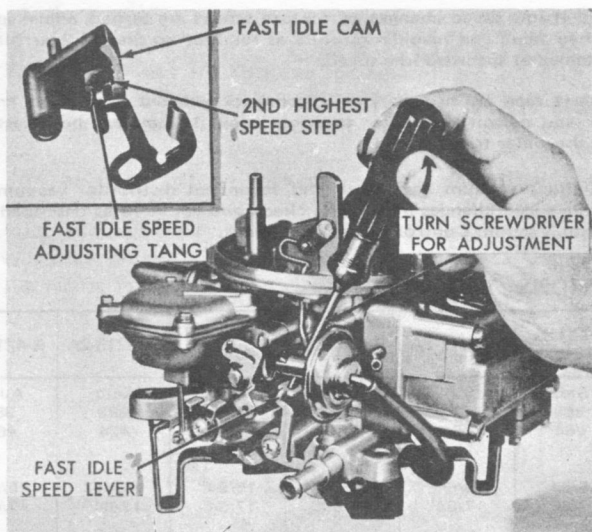

Fig. 7 - Fast Idle Speed Adjustment (On Vehicle)
2. Close choke valve until fast idle screw tang can be positioned on the second highest-speed step of the fast idle cam (Fig. 7).